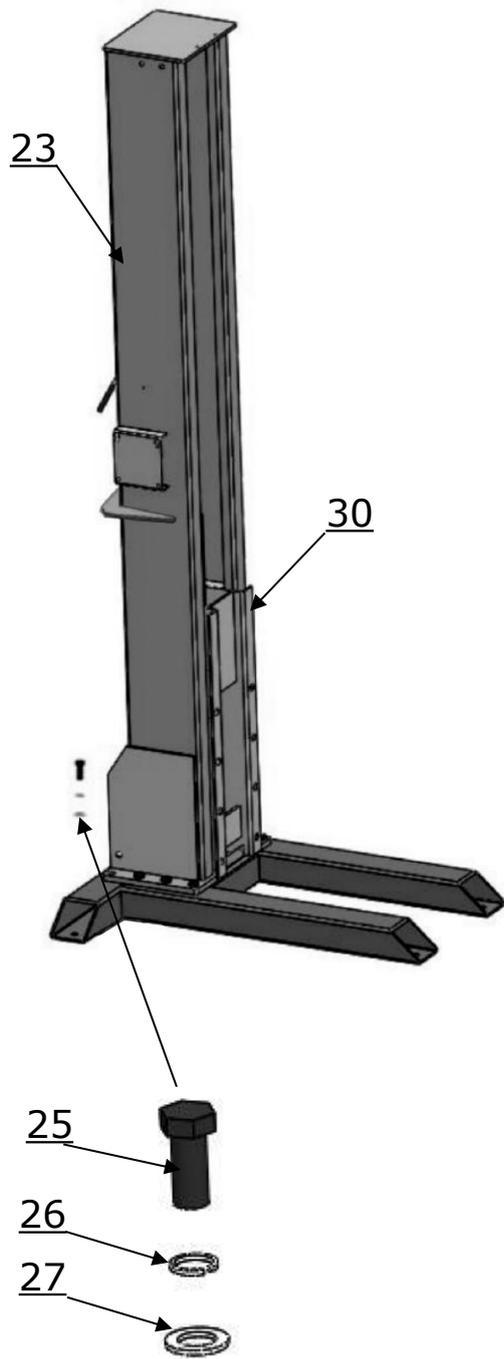

Fig. 12
3. Fix column to the base plate. (**See Fig.12**)